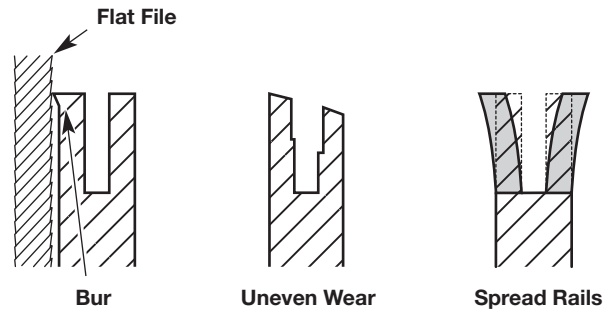

Fig. 38
3. Frequently check the guide bar for damage (Fig. 38). Feathering and burring of the guide bar rails (the ridges on either side of the bar groove) is a normal process of guide bar wear. Such faults should be smoothed with a file as soon as they occur (Fig. 38). A guide bar with the following faults should be replaced: